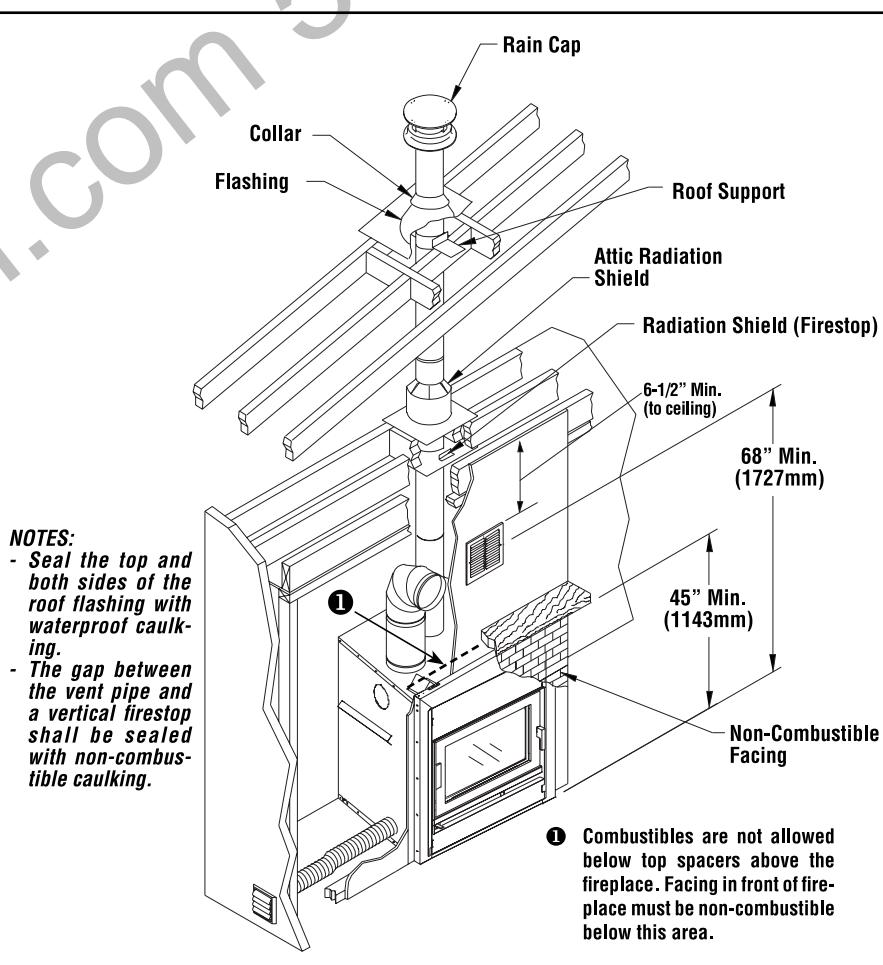

Figure 22
- b) The fireplace façade can be covered with non-combustible material (**Figure 22**).